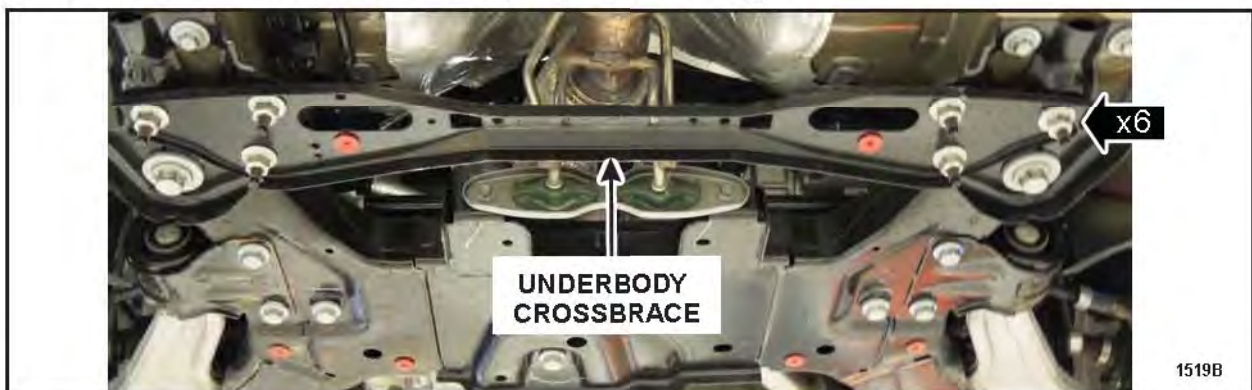

FIGURE 2
3. Remove the six nuts and the underbody crossbrace. See Figure 2.
1. Install the underbody crossbrace and the six nuts. See Figure 2.